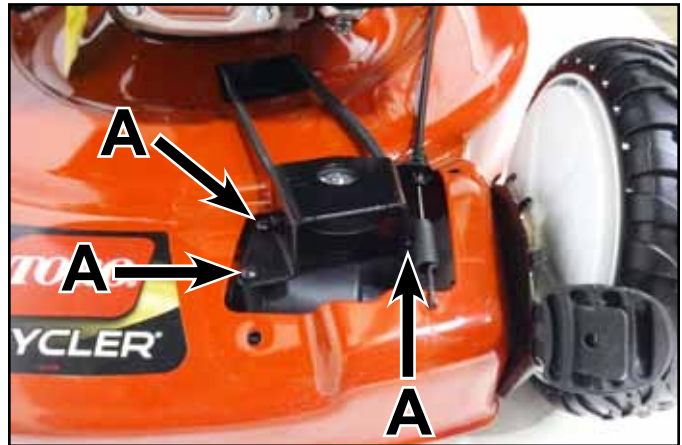

Fig. 149
2. Remove the (3) screws (A) holding the transmission belt guide to the top of the transmission and remove transmission belt guide (Fig. 149 and Fig. 150).